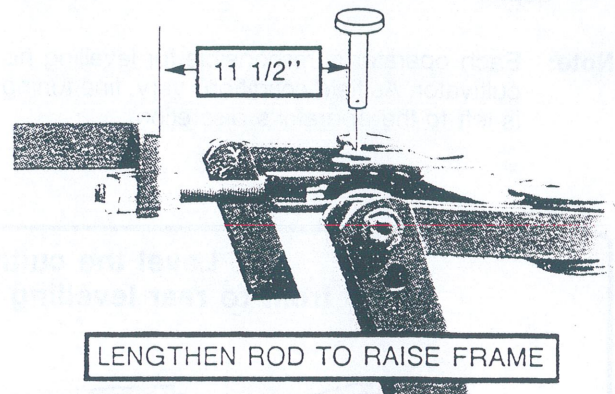

Figure 7
- **Dual Axle** Dimension "X" is 11 1/2". See Figure 7.